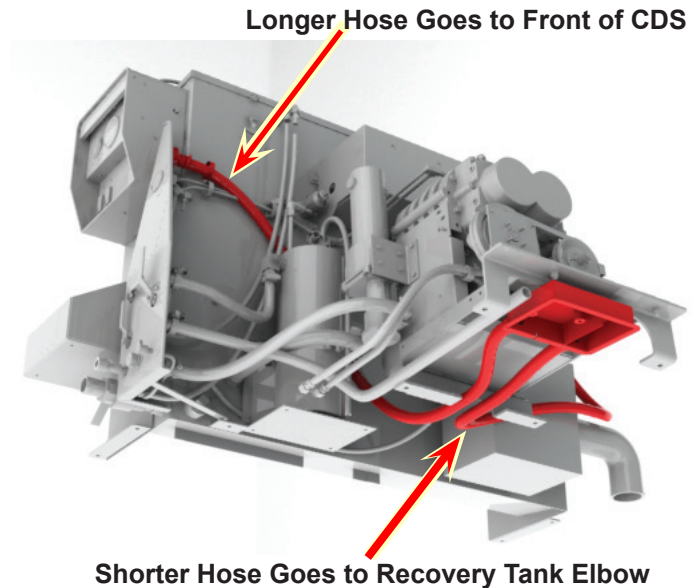

Figure 8. Underside View of Kit's Hose Configuration
5. Connect the two 1" flex hoses to the new cover over the yaw sensor (see Figure 8). Use the provided hose clamps to secure the hoses.